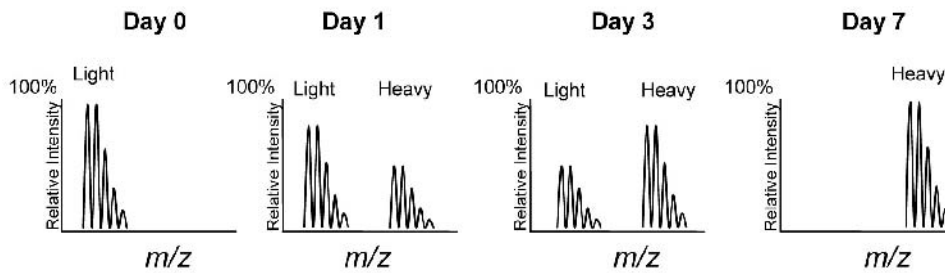

Figure 2. Schematic of label incorporation time course.
3. After five cell doublings, incorporation of heavy L-Lysine and/or L-Arginine should be > 95% (Figure 2). Harvest 10^6 cells from each sample (light and heavy) to determine incorporation efficiency (Section C).